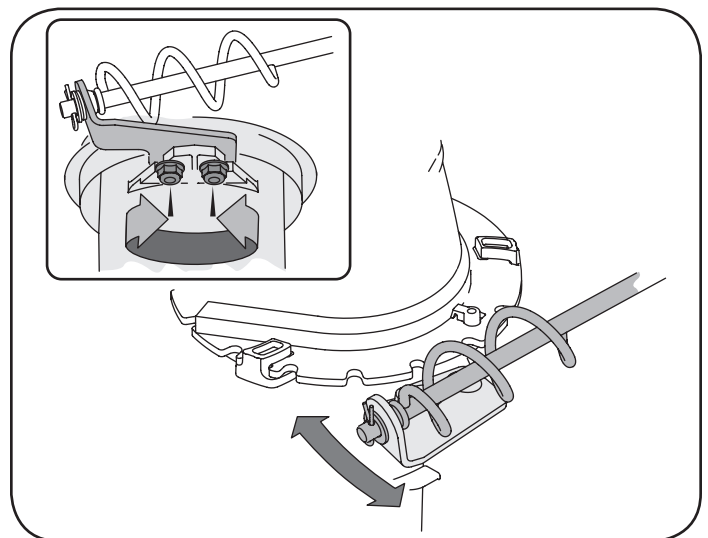

Figure 65
1. Loosen the two nuts which secure the chute bracket and reposition it slightly. See Figure 65.